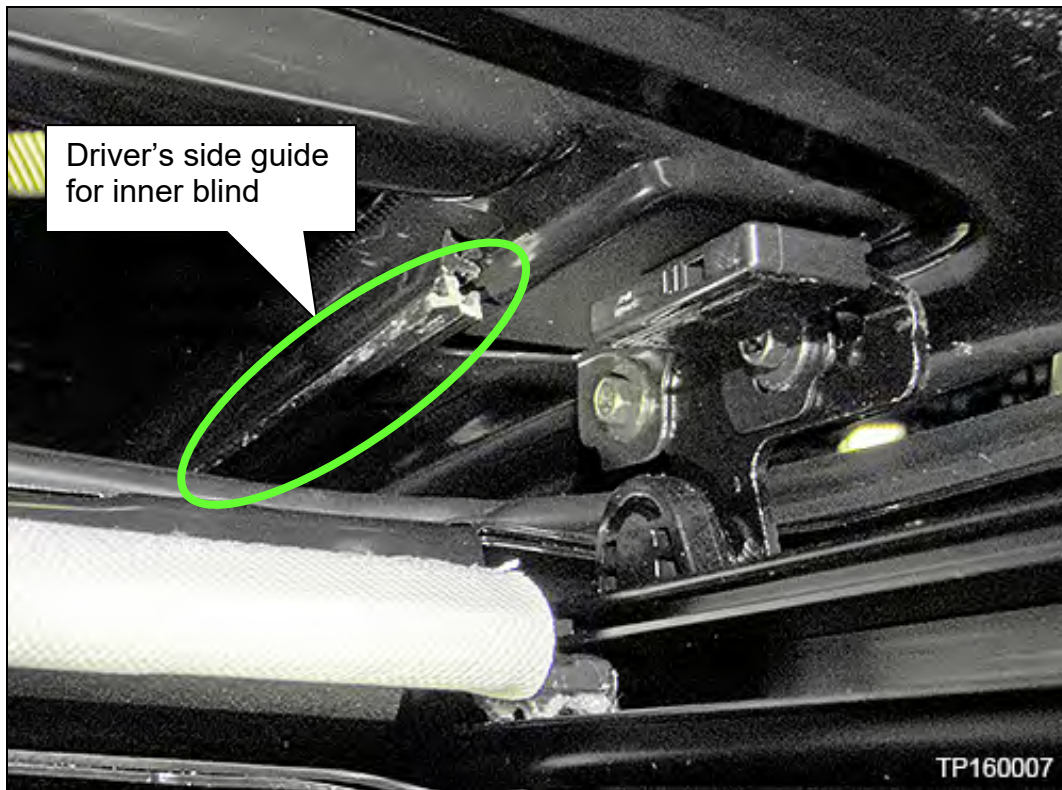

Figure 24
a. Slide the top of the left and right inner blinds onto their guides (Figure 24).